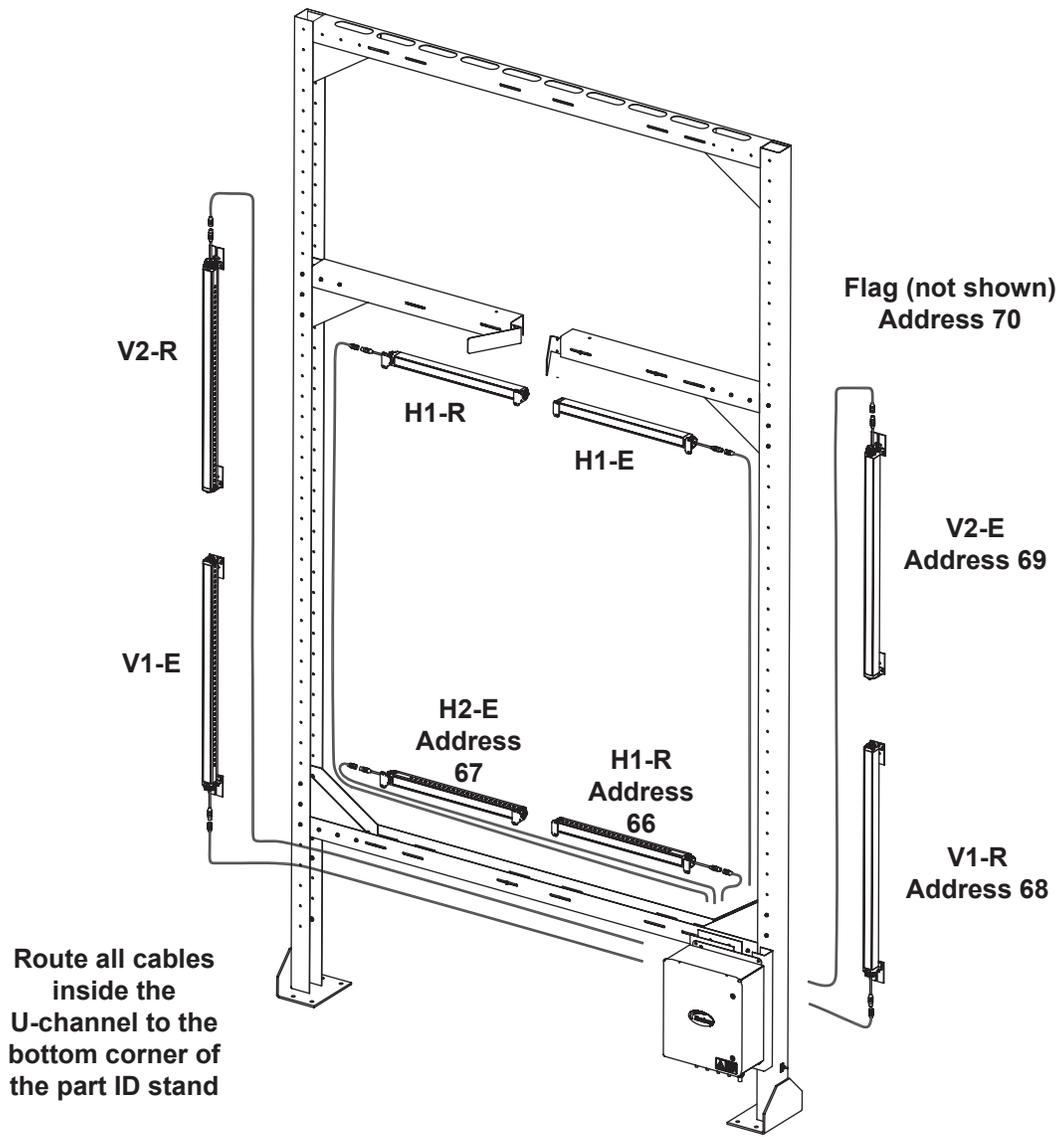

Figure 14 Sensor Location and Cable Routing
NOTE: Beam arrays are addressed at the factory. They must be installed according to Table 10 and Figure 14. Refer to the Parts section for part numbers. Contact a Nordson representative to reprogram a beam array address.
10. See Figure 14. Install the beam arrays in the part ID stand.